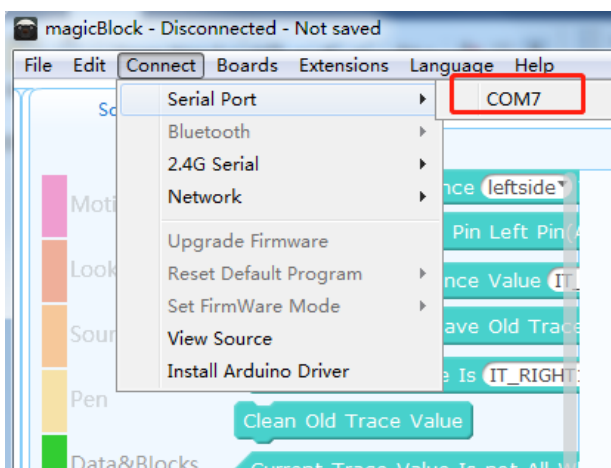
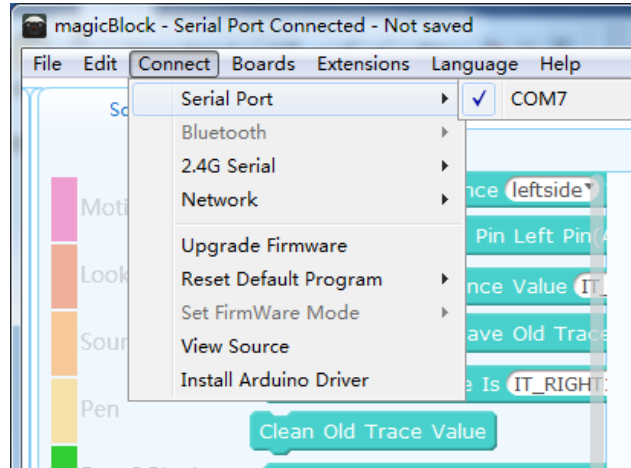

Figure 2-2-3
Figure 2-2-4
- 3) Click on "Connect to COM4 (different computers have different numbers of COM ports)", as shown in Figure 2-2-3. After the correct connection, there will be a "Serial Port Connected" prompt at the top of the software. At this time, MagicBlock and Panther-Tank are successfully connected, as shown in Figure 2-2-4.